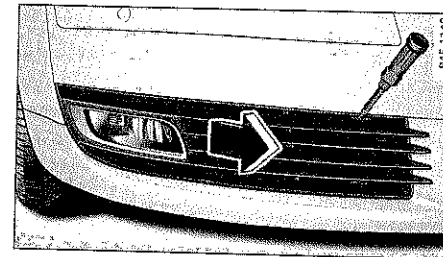

Fig. 299 Right front bumper: Removing the air intake grill
- Insert the screwdriver into the slots as shown ⇒ fig. 299